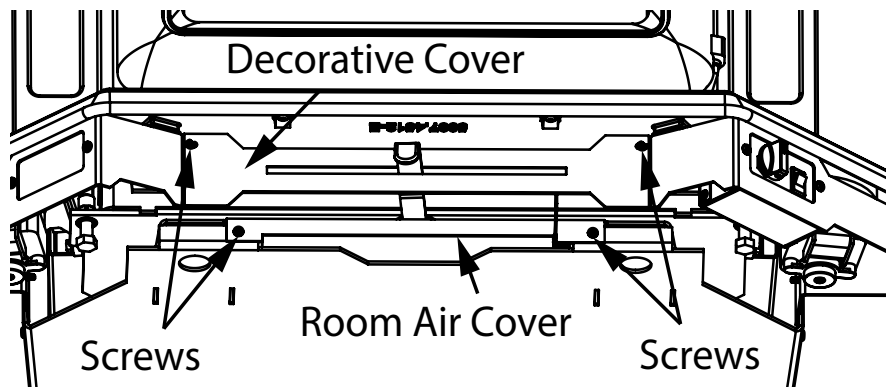

Figure 7: Super Insert LE - Room Air Supply Covers.
2. Room air supply: Remove the two screws securing the Decorative Cover under the ashlip. Remove the screws holding the Room Air Cover to the Base bottom and discard the this cover. Re-install the Decorative Cover and tighten screws (Figure 7). Combustion Air will be drawn from the room through the front of the unit.